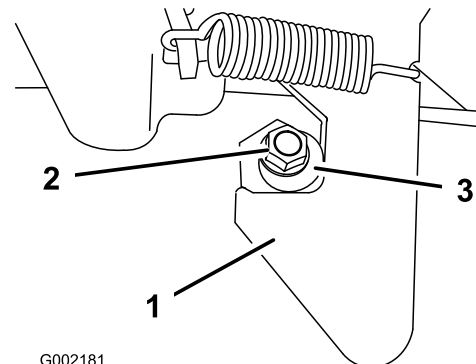

Figure 19
1. Loosen the nut on the end of the latch post (Figure 19).
2. Turn the latch post clockwise until it is snug against the latch and then tighten the nut (Figure 19).